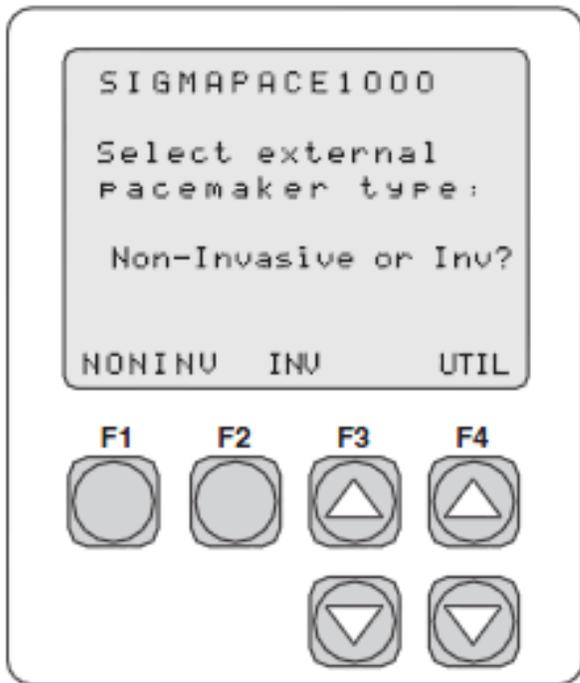

Fig 2
- Depress “F2” (INV) to select the “Invasive” category. Figure 2